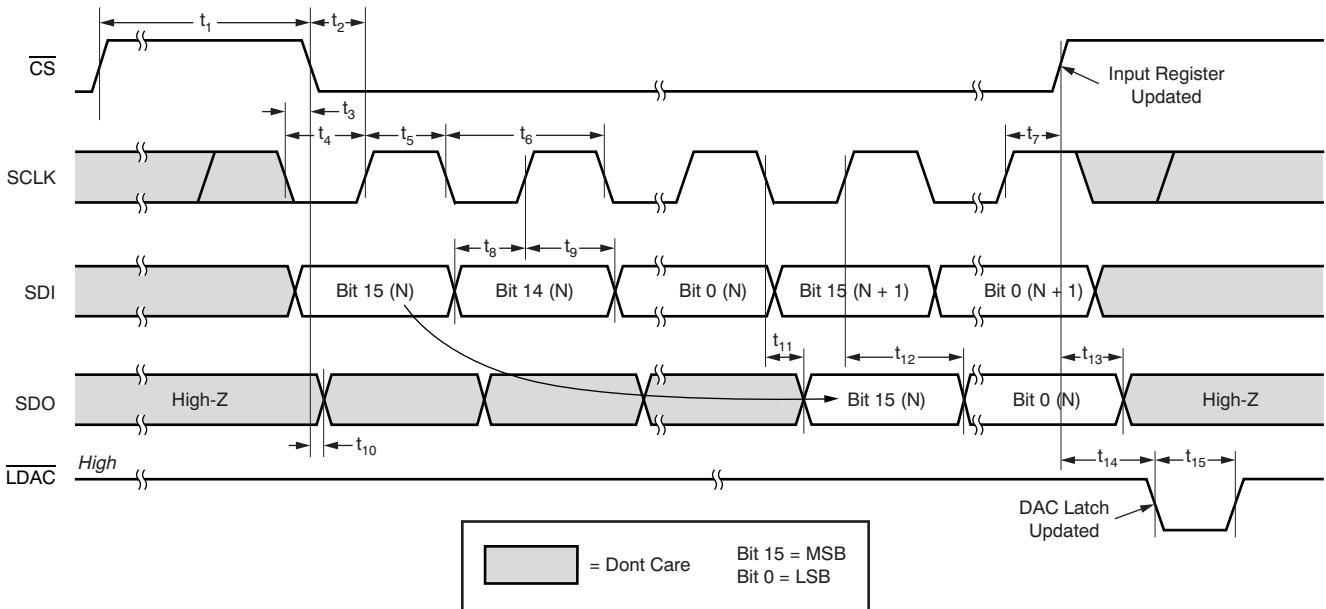

Figure 3. Timing Diagram of Daisy Chain Mode, Two Cascaded Devices
- (1) All input signals are specified with tR = tF = 2ns (10% to 90% of IOVDD) and timed from a voltage level of IOVDD/2.
- (2) Specified by design. Not production tested.
- (3) Sample tested during the initial release and after any redesign or process changes that may affect these parameters.
**6.7 Timing Characteristics for Figure 2 and Figure 3** (1) (2) (3)